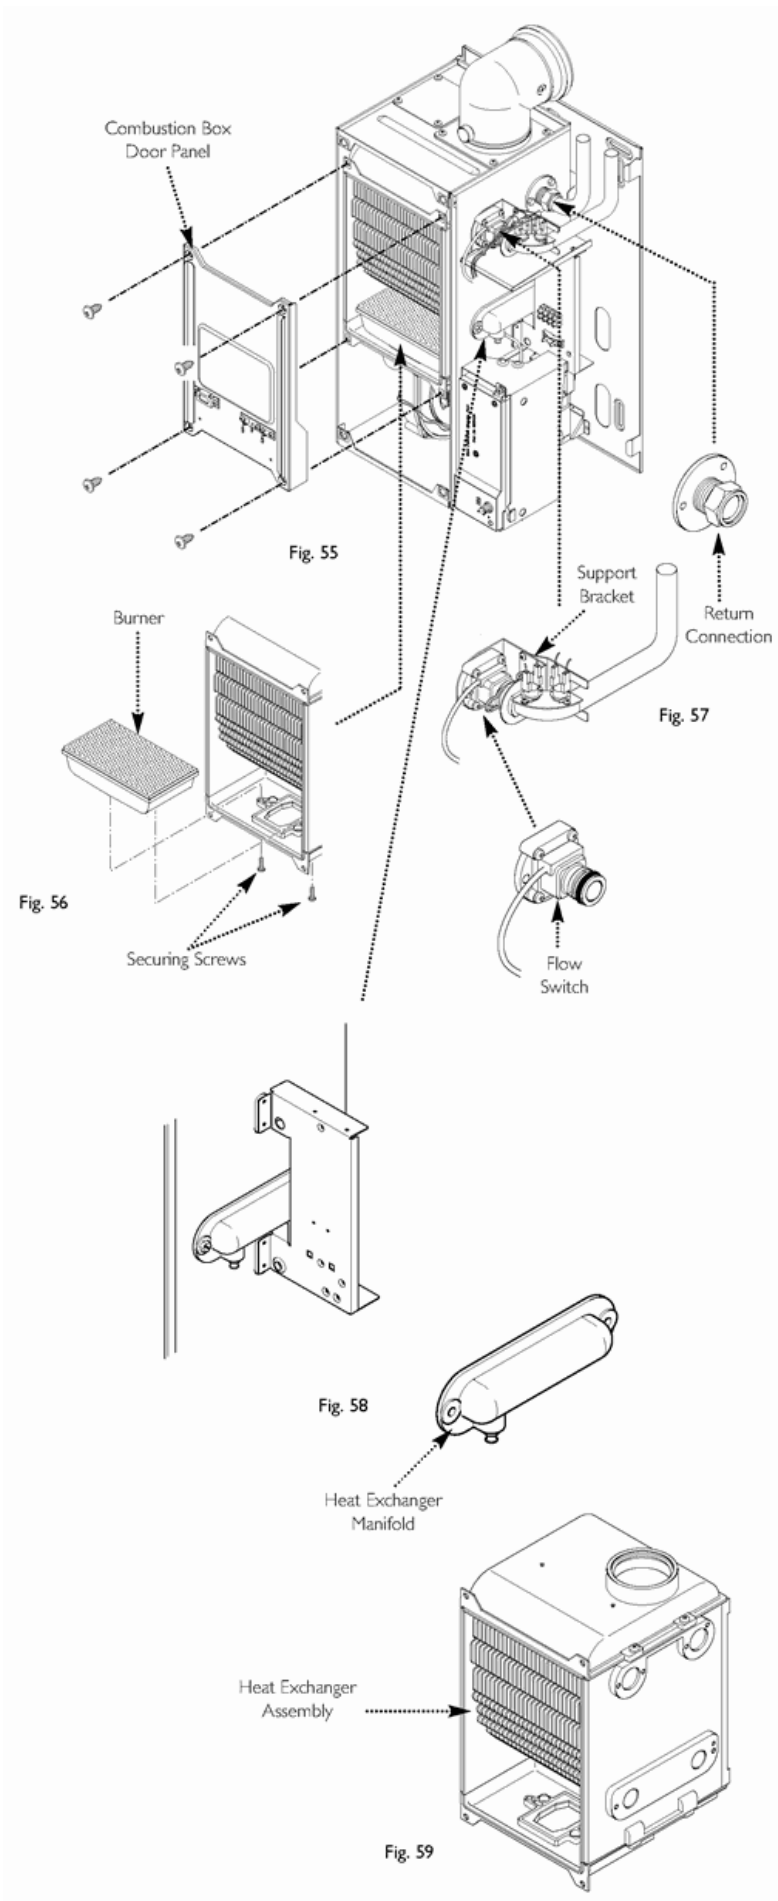

Fig. 55, Fig. 56, Fig. 57 & Fig. 59
1. Remove the combustion box door by removing the four securing screws (Fig. 55).